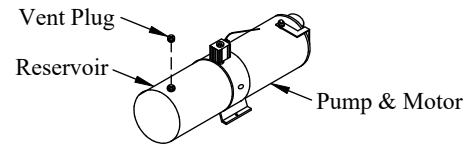

Figure 14: Vent plug.
- (1) Lower mounting kit
7. **Install** the vent plug provided into the pump reservoir (Figure 14).